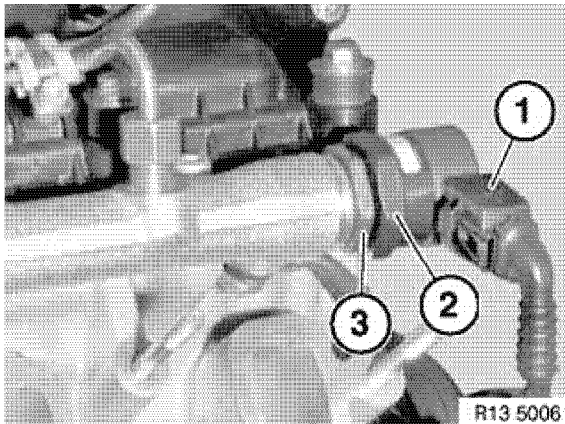

Figure 12-31
4. Disconnect electrical connector (1, **Figure 12-31**).
5. Hold sensor hex (2, **Figure 12-31**) with wrench and loosen retaining nut (3, **Figure 12-31**).